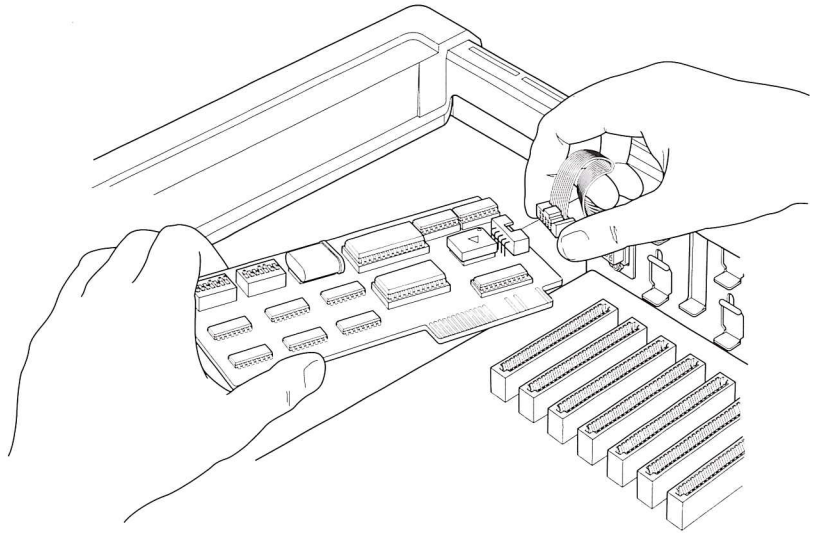

Figure 4-12 Connecting the ribbon cable to the card
4. Connect the ribbon cable to the Super Serial Card as shown in Figure 4-12.